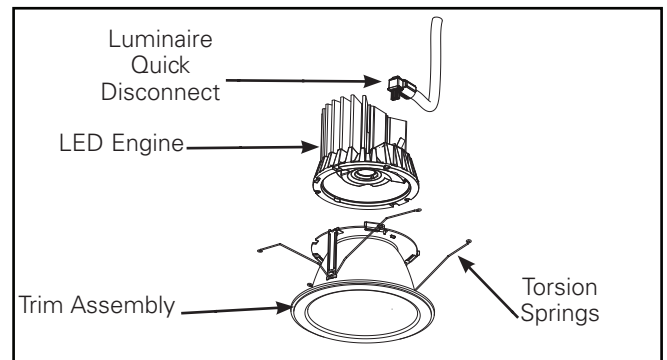

Figure 31
1. Place end of flexible conduit through frame opening in ceiling exposing upper portion of quick disconnect (Figure 31).